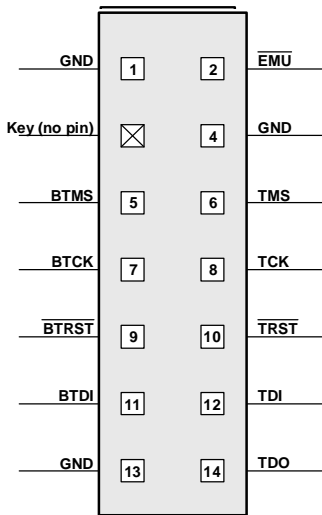
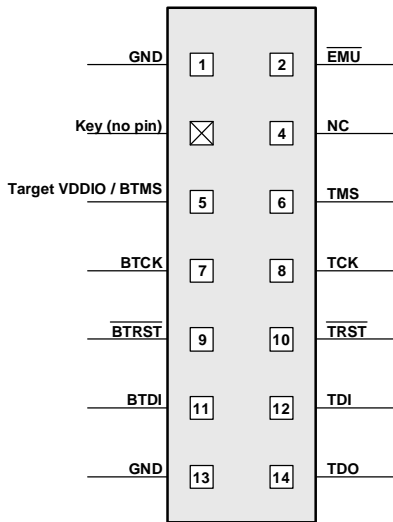

Figure 1-4. Legacy Pinout
Figure 1-5. Auto Detection Pinout
The mode of operation supported by the PCI emulator is dependent on the connection method used for the 14-pin JTAG header on your target. Figure 1-4 and Figure 1-5 show how the target JTAG header connects for legacy and auto detection modes.
**i** Voltage selection is not available on the MSP430 emulator. The MSP430 emulator is fixed at 3.3 volts and has a different pinout than shown in Figure 1-4 or Figure 1-5.